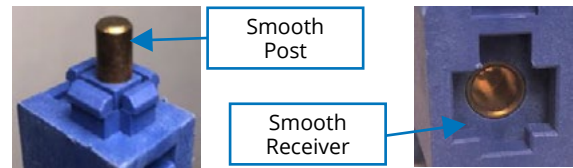

Figure 2
- ii. If using the snap-type iMOD, go to Step 1B (Refer to FIGURE 2 for GPS-iMOD-S snap-type without threads).